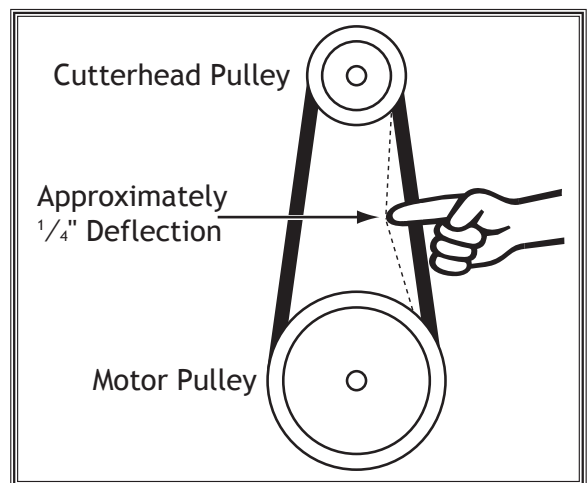

Figure 62. Checking belt deflection.
5. Press belt with moderate pressure in center to check belt tension. Belt is correctly tensioned when there is approximately 1/4" deflection when pushed, as shown in **Figure 62**.